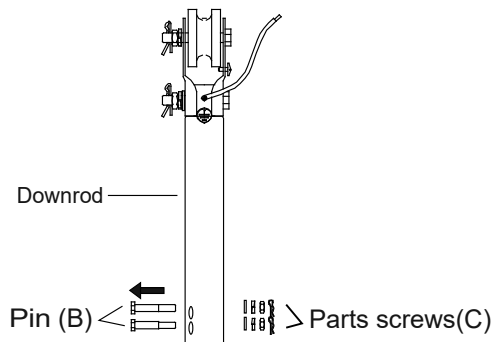

Fig.3
1. Before installation, remove the Parts screws(C) from both side of the down rod .(Fig.3)